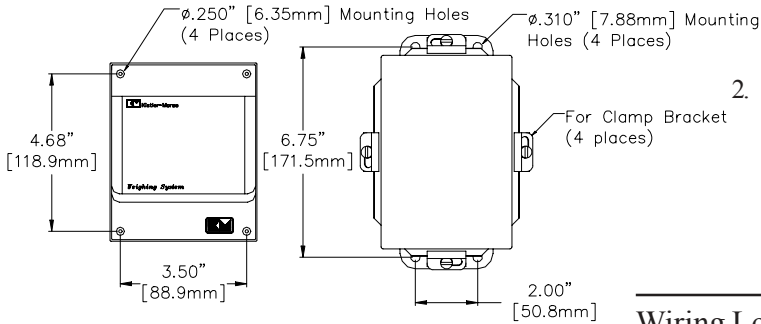

Figure 3-6: Plastic and Stainless Steel Junction Box Mounting
1. See Figure 3-6. Hold the junction box at the desired mounting location. Mark the four mounting holes.